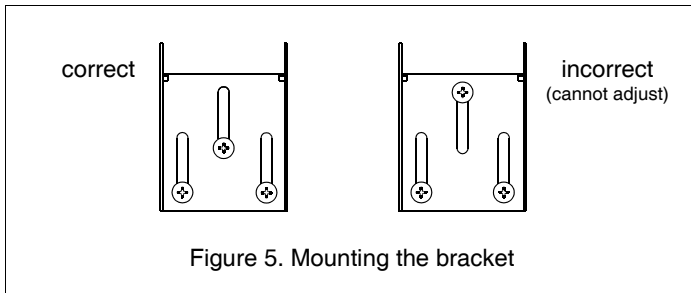

Figure 5. Mounting the bracket
2. With a pencil, mark the outline of the bracket slots on the hull. Mark the screw location at the bottom of each slot to allow for adjusting the bracket (see Figure 5).